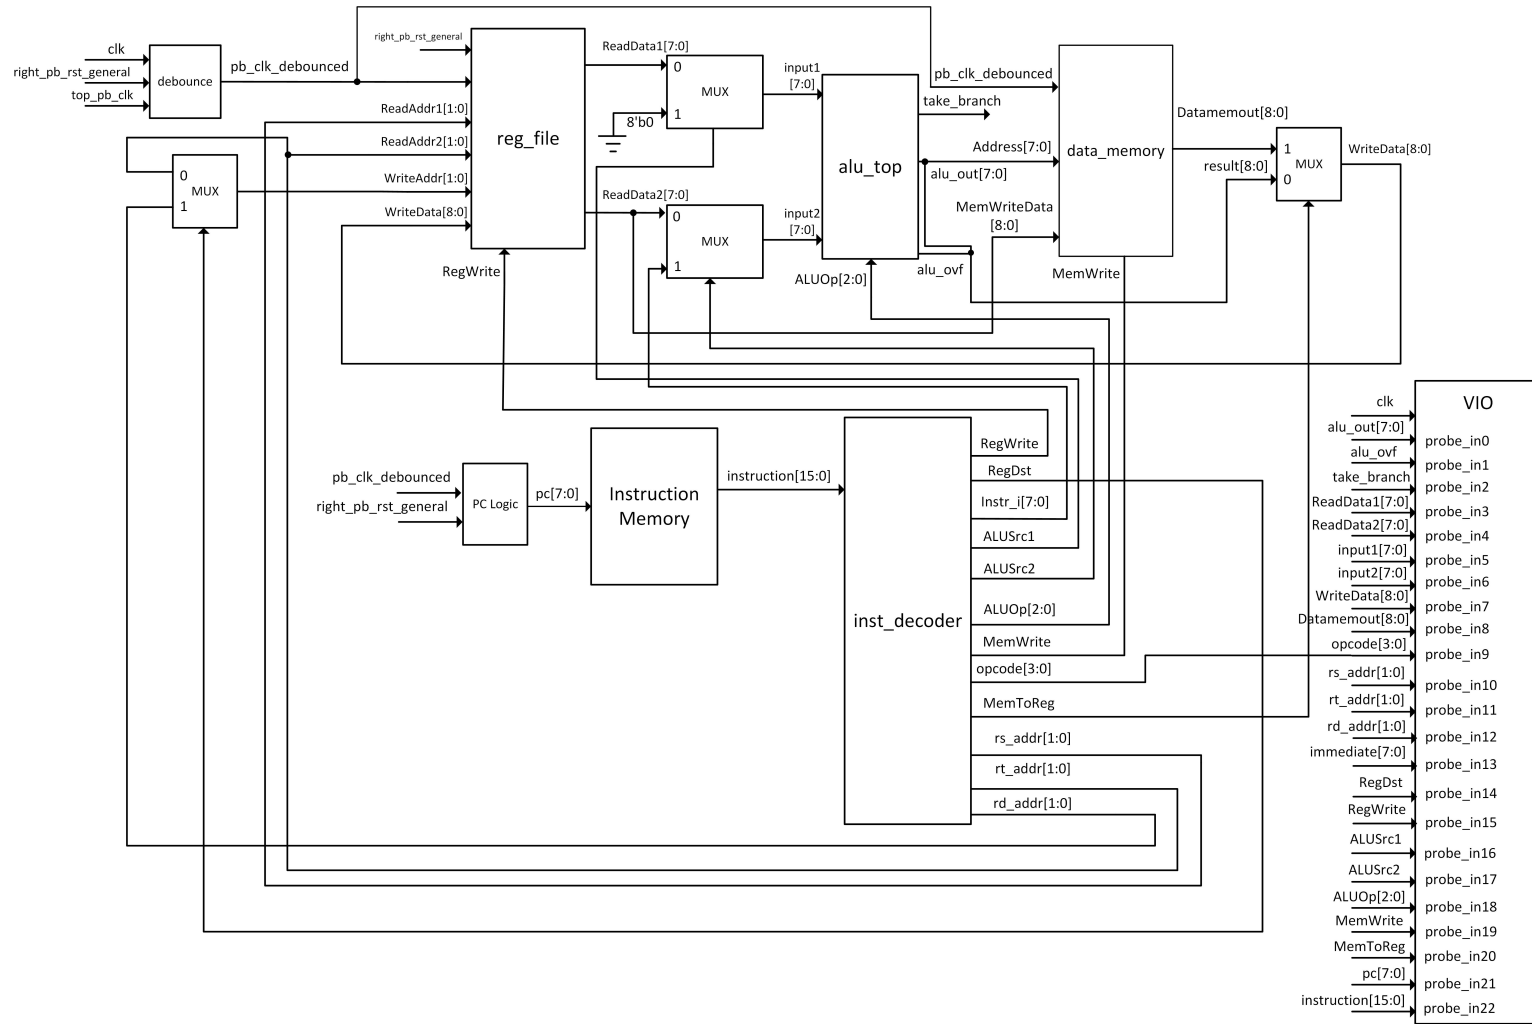

Figure 1: Computer with Instruction Memory and Program Counter
In this lab, you will add instruction memory to the computer you completed in Lab 6. You will need to add instruction memory as described below and a Program Counter (PC) to address the Instruction Memory (IM). Your instruction memory should be 16 bits wide by 256 entries. An instruction for the lab computer is 16 bits wide, and 16 bits is defined as a word in the IM. The IM is *word addressable*. Your top level design will connect the `BTN1` button on the PYNQ board to all clock inputs, including the PC, memory and the register file. `BTN0` is the reset button for the register file and PC. It also resets the *output* from the instruction memory, but does not touch the memory. DM does not have a reset. Figure 1 shows the top level design for this lab experiment.